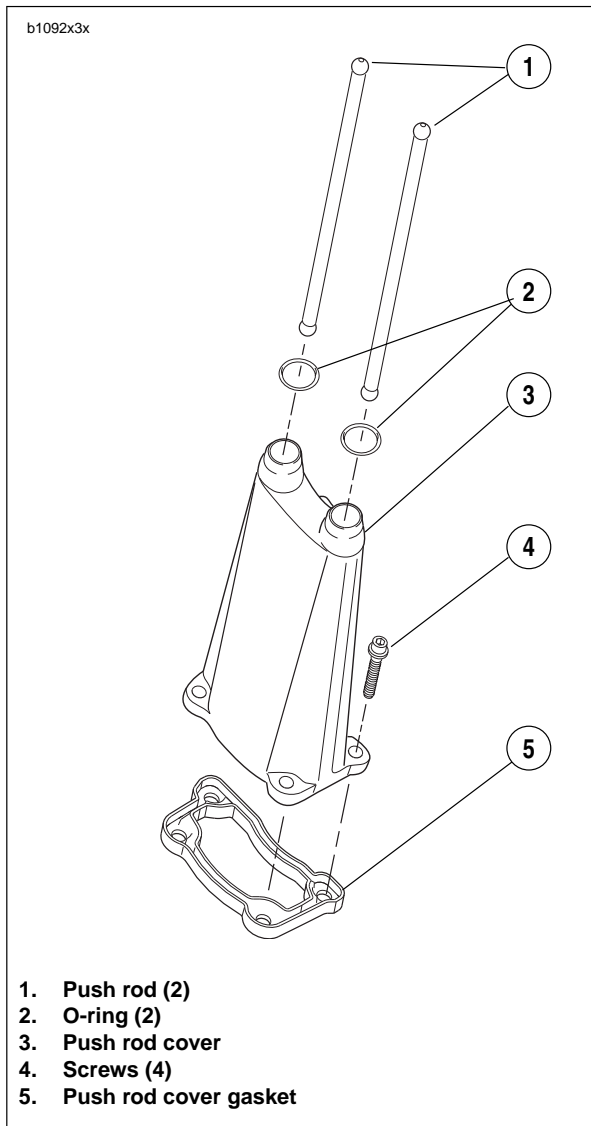

Figure 3-80. Push Rods and Push Rod Cover Assembly
1. See Figure 3-80. Install push rod covers.
- a. Install **new** o-rings (2) on top of each push rod cover (3).
- b. Install **new** push rod cover gasket (5) onto bottom of each push rod cover.
- c. Install each push rod cover assembly and start the fasteners (4) securing the bottom of each cover to the crankcase.